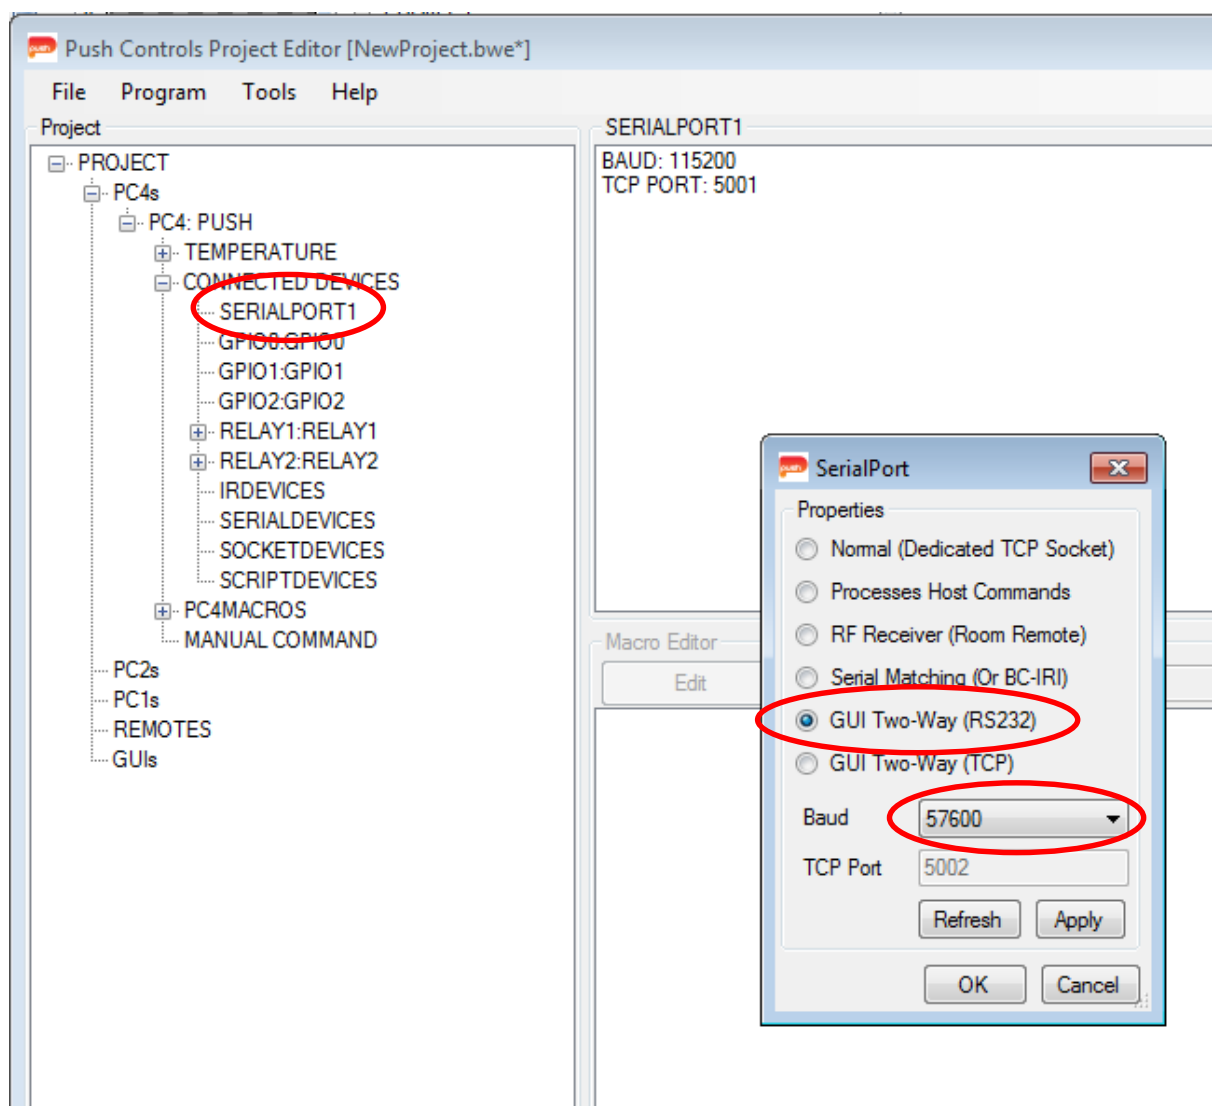

Figure 3 – Configuring the RS232 port on a PC4
- Select the PC4 controller. *Refer to Figure 3*